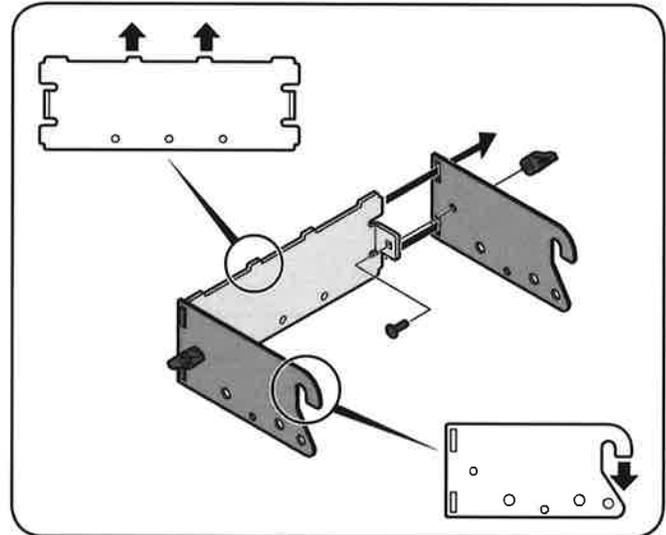

Figure 3
1. Attach the two hitch side brackets to the universal rear attachment bracket using two carriage bolts (710-0276) and wing knobs (720-04122) from hardware pack 689-00328A. See Figure 3.
**Note:** The hooks on the side brackets should point downwards and the tabs on the rear plate point upwards as shown in Figure 3.